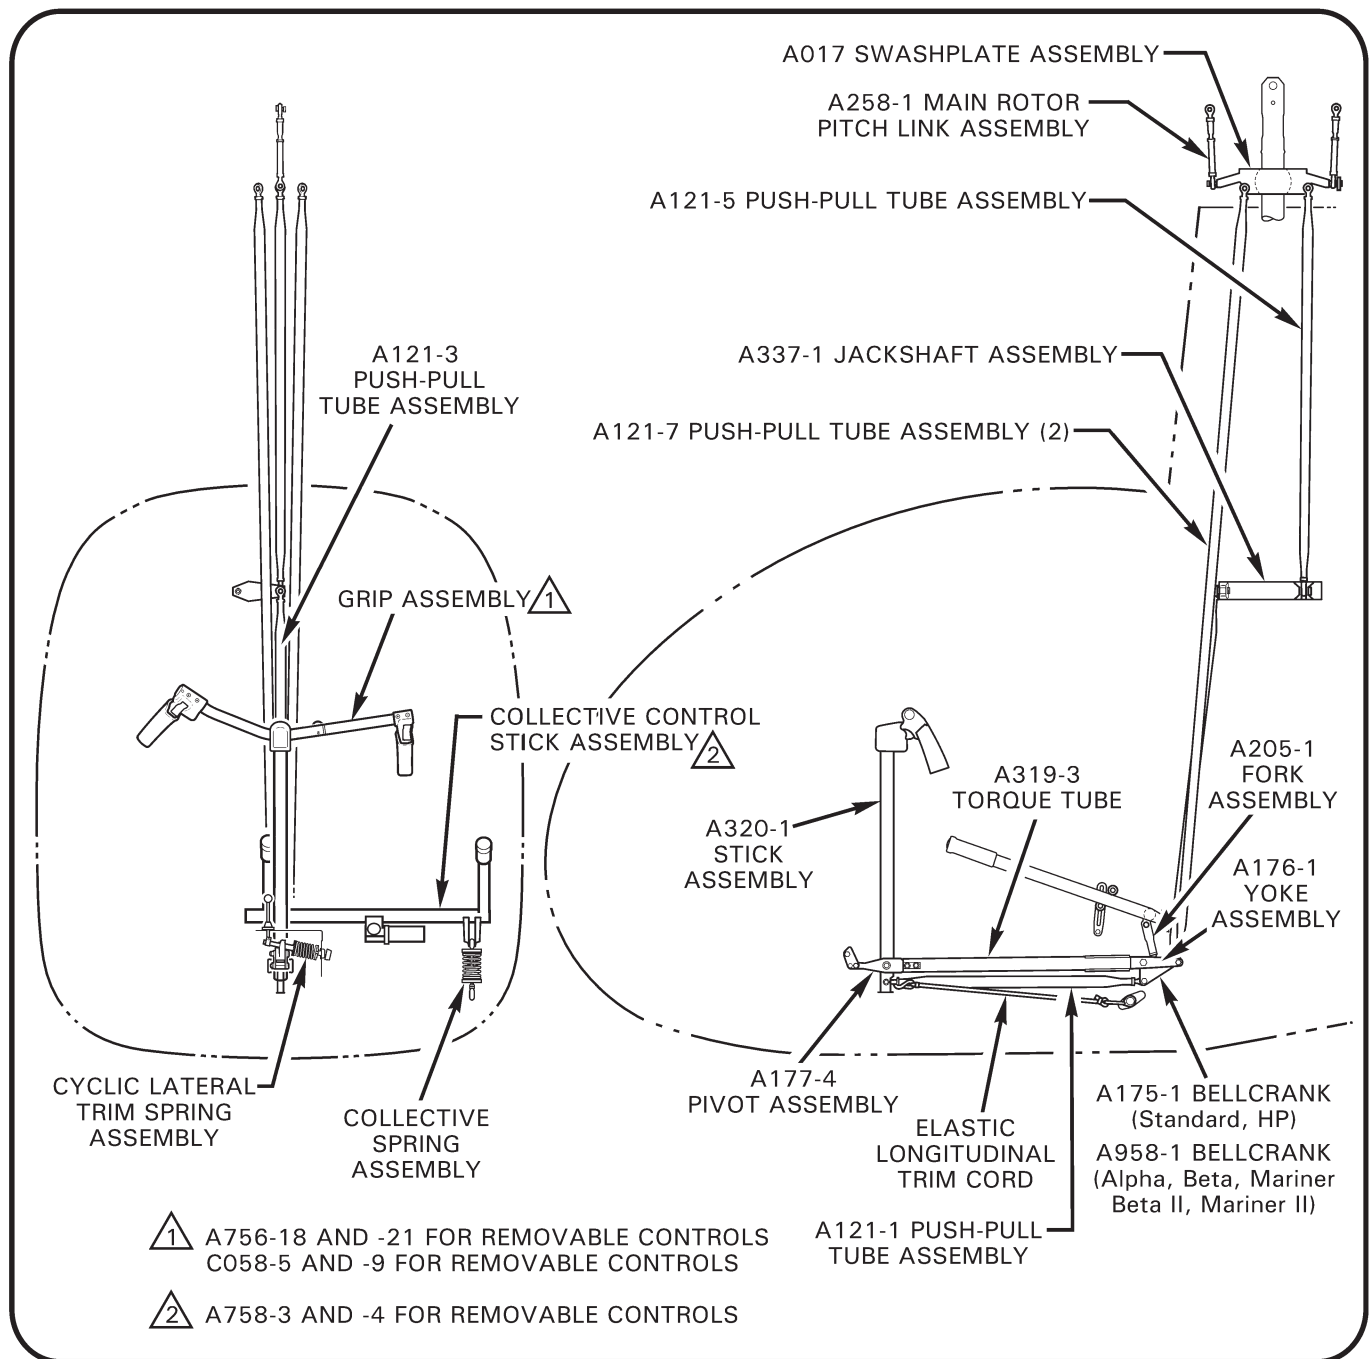

FIGURE 8-1 MAIN ROTOR FLIGHT CONTROLS
8.002 Description (See Figures 8-1 and 8-2)